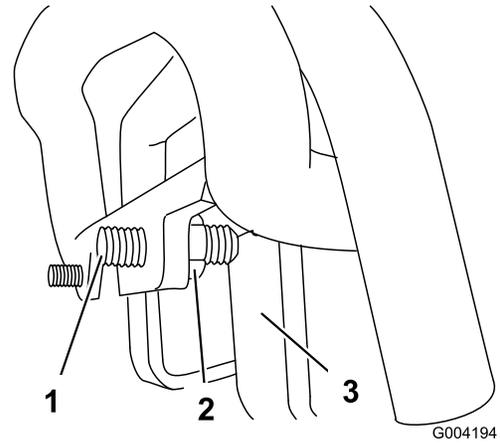

Figure 57
- 4. If the machine veers to the **right**, loosen the **left** jam nut and adjust the tracking set screw on the front of the traction control (Figure 57).
- 3. If the machine veers to the **left**, loosen the **right** jam nut and adjust the tracking set screw on the front of the traction control (Figure 57).